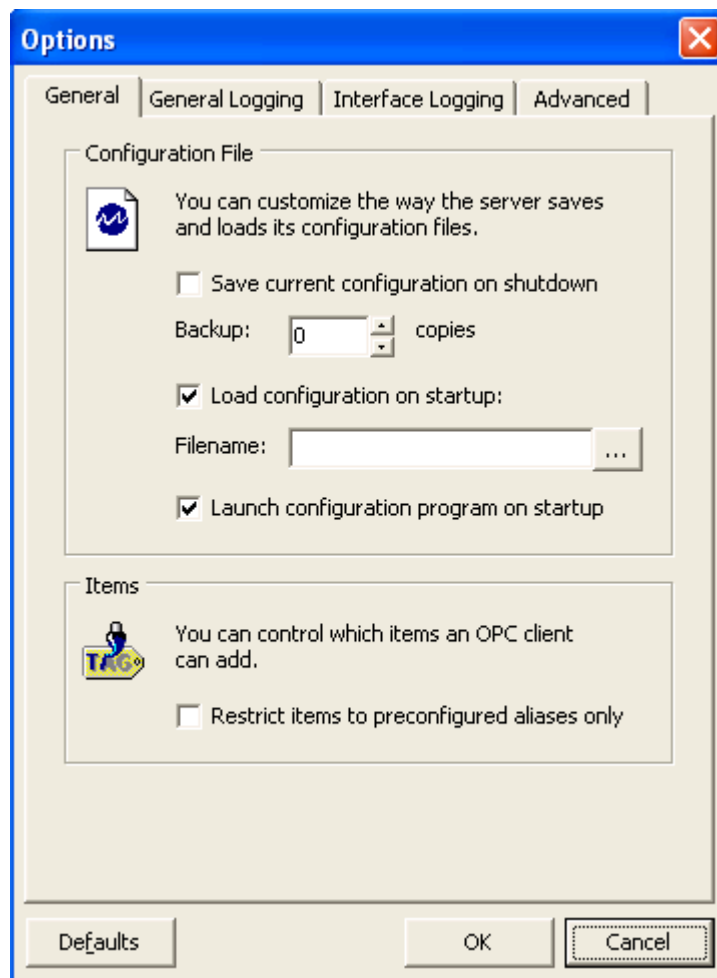

Figure 12 - General Options Tab
3. From the **Options** window, select the **General** tab (Figure 12).